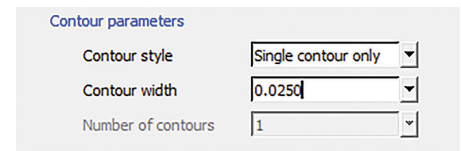

Figure 55: Custom group settings for solid fills using “Single contour only.”
4.3.7. Define toolpath settings (Figure 55).